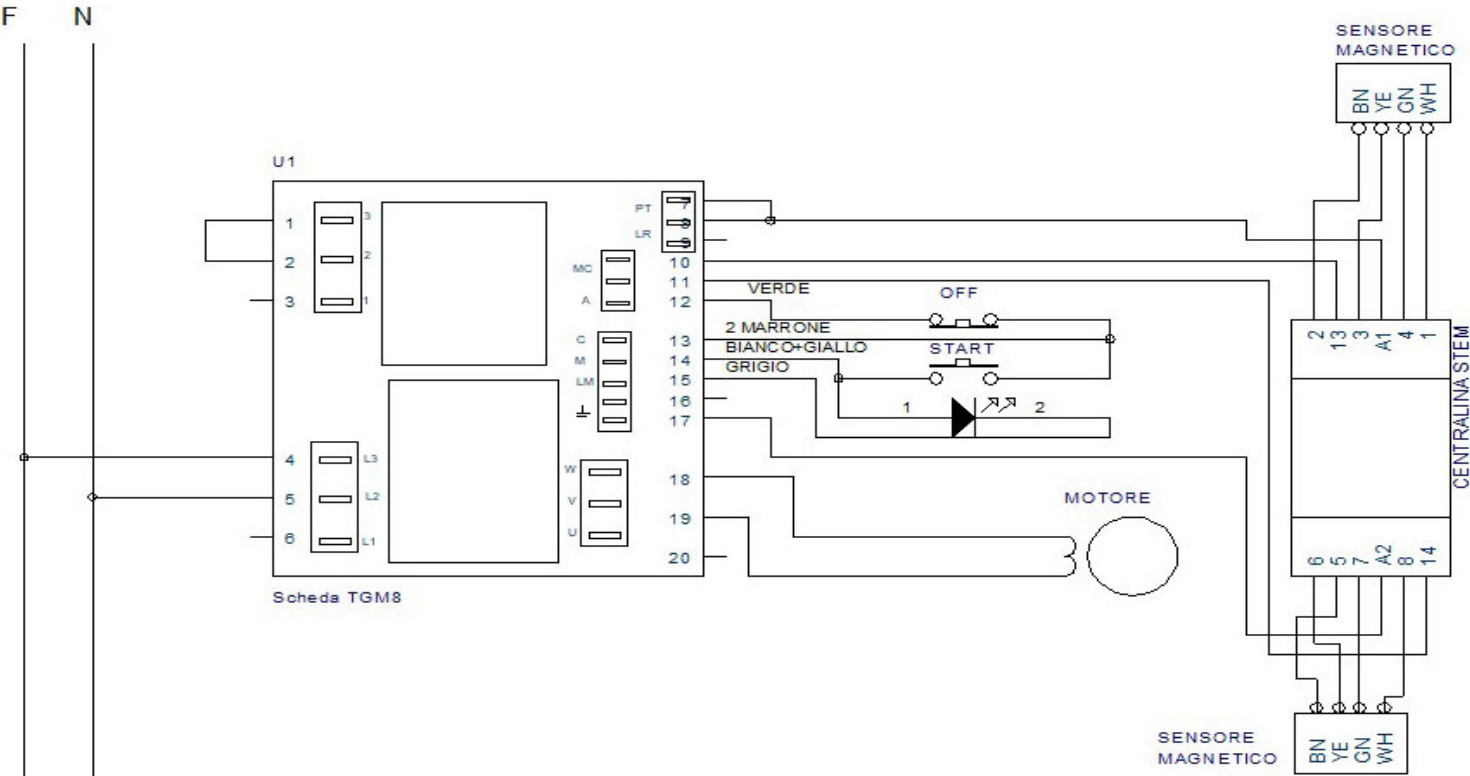

FIG. no. 11
**Clean the rollers and scrapers:** open the scrapers on their bottom using the two lever on each one (FIG. no. 11, do not use tools) and swipe a damp cloth to get rid of the left-over dough stuck on the rollers and scrapers.
9.1 - single-phase/three-phase wiring diagram (FIG. no. 11)